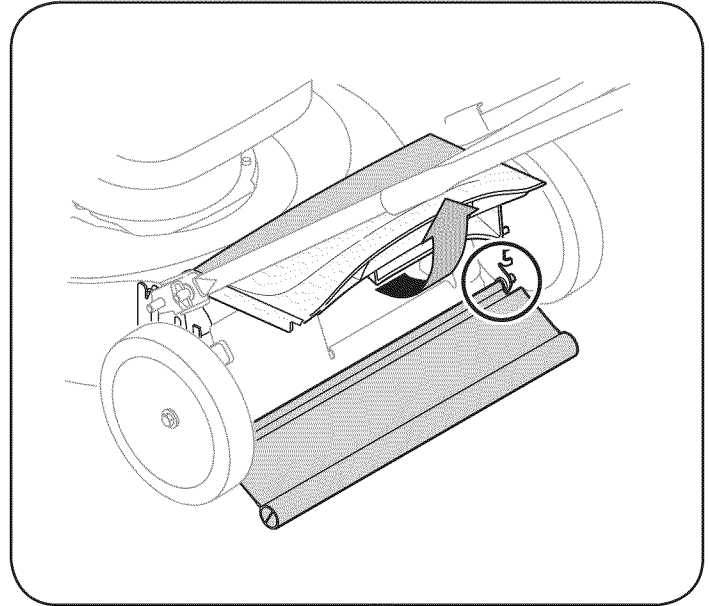

Figure 15
Lubricate the torsion spring and pivot points on the rear discharge door periodically with light oil to prevent rust. See Figure 15.
1. Lift rear door, and press flap in on either side to remove from hole. See Figure 15.